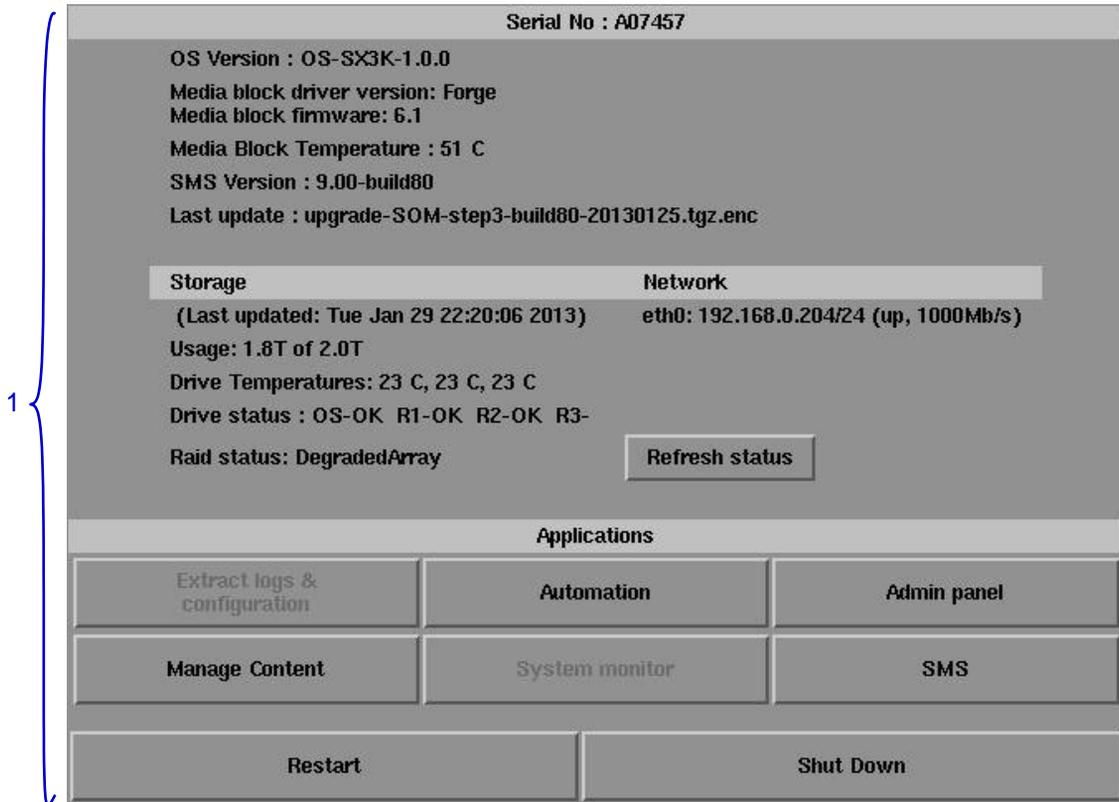

Figure 48 Control Panel menu.
- Switch **ON** the IMB and allow it to boot up to prompt directly to the **SMS** interface. When the SMS interface is shown, press the **Control Panel** button and a new window for the **Control Panel** menu opens as shown in **Figure 48**. The **Control Panel** includes the **Automation** button, **Admin panel** button, **Manage Content** button, **SMS** button, **Restart** button, **Shutdown** button and a **Refresh status** button. System information including the serial number, OS version, SMS version, network and storage information can also be seen on the Control Panel UI.